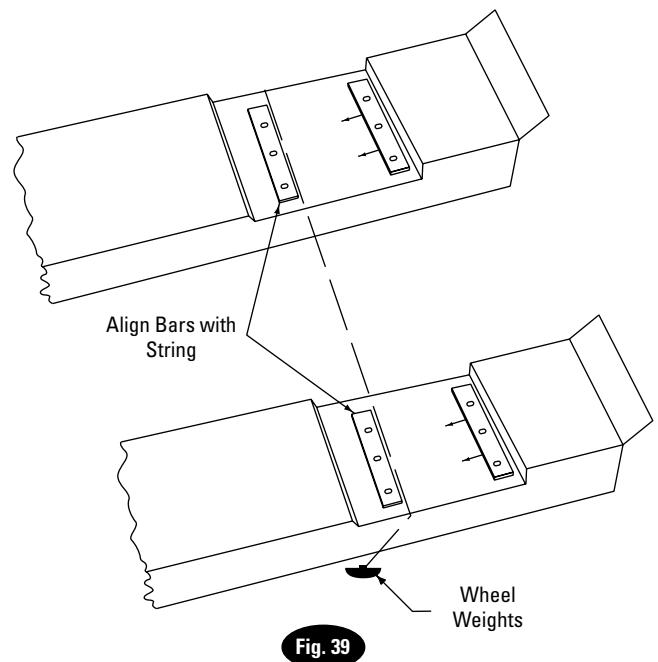

Fig. 39
- B. Place a string (weights on each end) across the runways so that the string is touching along the full length of both rear guide bars, Fig. 39. If the string is not touching, tap the ends of the guide bars lightly until the guide bars make full contact against the string. Tighten the rear guide bar mounting bolts securely and remove the string.